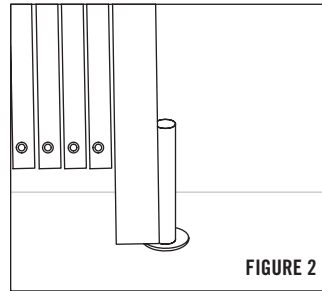

FIGURE 2
- 2) Have a helper extend the gate and stand it upright where it will be mounted. Drill 3/4" diameter x 3" deep hole, 1/4" from wall into the floor for gate pin to set into. Place a bearing washer over floor hole and set bottom gate pin into floor mount hole. (See Figure 2)